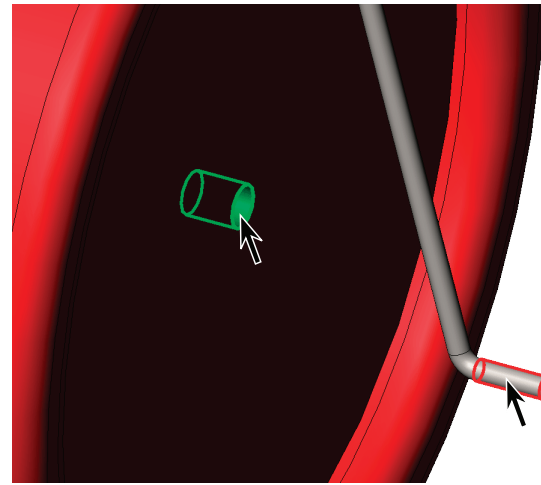

Fig. 4
Step 3. Click **cylindrical inside face of wheel hole** and **cylindrical face of horizontal section of wire**, Fig. 4.